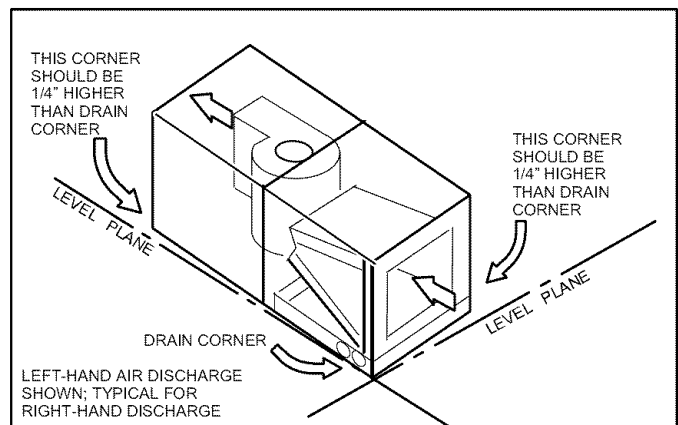

Figure 6. Sloping for Proper Drainage DOWN-FLOW AIR DISCHARGE APPLICATIONS
- Step 13. Set unit so that it is sloped 1/4 inch towards the drain pan end of the unit as illustrated in figure 6. Connect return and supply air plenums as required using sheet metal screws.